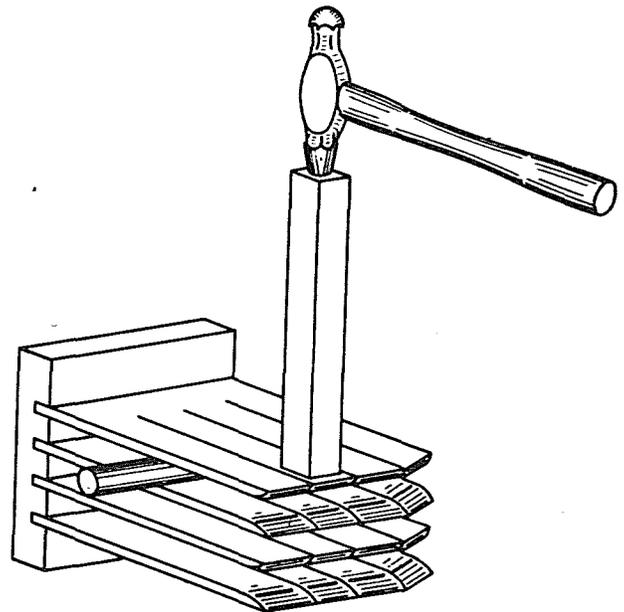

Fig. 6 - Illustrating Contact Clip Adjustment
(3) When the amount of adjustment is large, insert a round rod of the proper size between the clips, as shown by Fig. 6, and shape the clips in their proper relation with a hammer and fiber block. Remove the round rod and try the clips for contact surface. Repeat this procedure, if necessary, until the desired adjustment has been obtained.